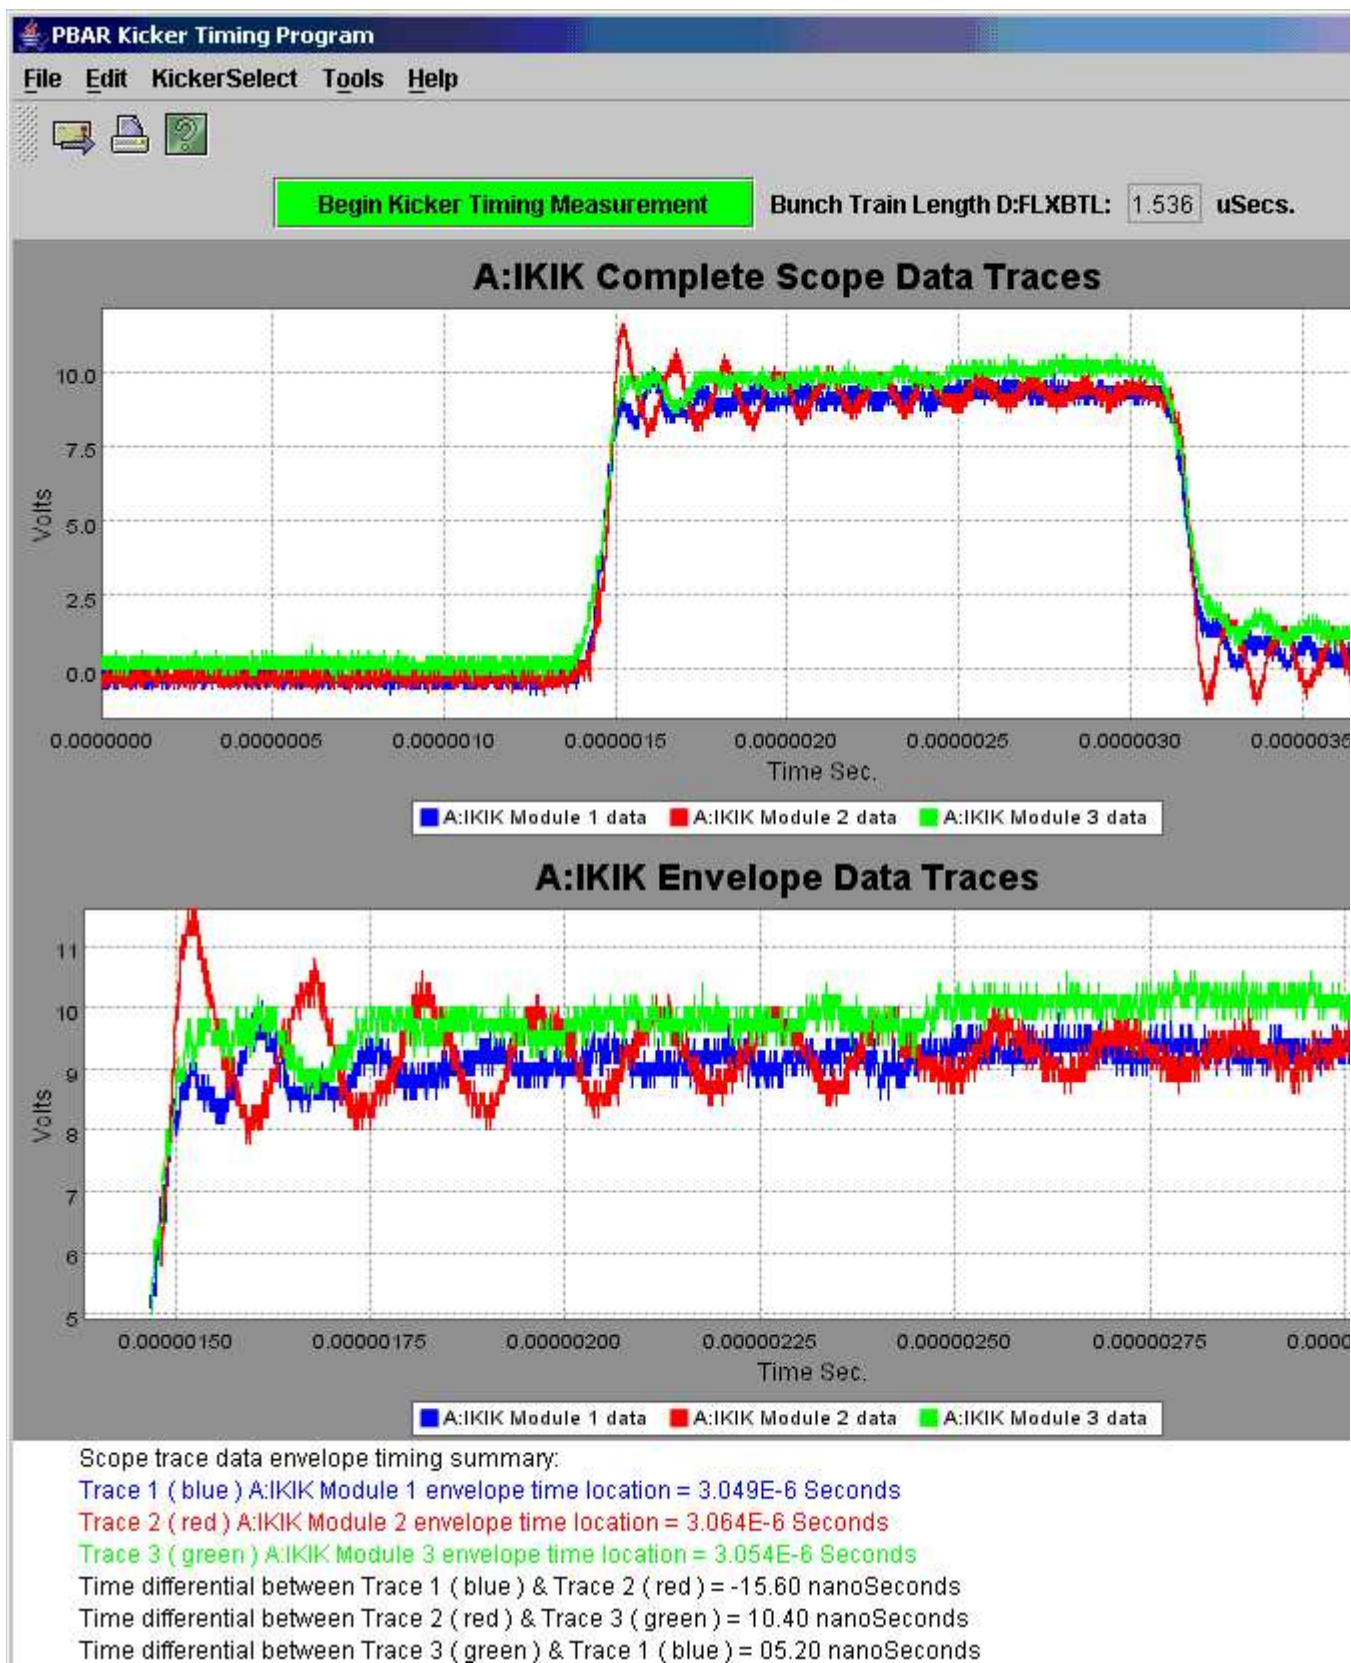

Figure 35: The Pbar Kicker Timing Program shows the Debuncher Extraction Kicker scope traces.
15. Examine the Pbar Kicker Timing application (see Figure 35) to see if the kicker trace alignment is converging. Click on the green box that is labeled "Begin